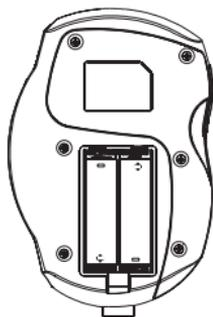

Fig.2-2
- 1) Open the battery cover and you can see the battery polarities as shown in Fig.2-2.